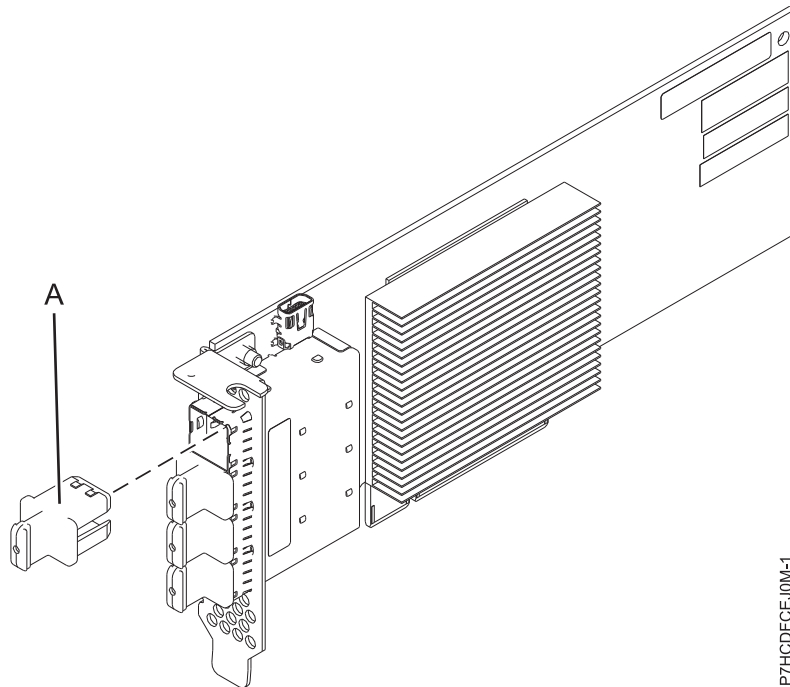

Figure 29. PCIe3 RAID SAS quad-port 6 Gb LP Adapter
The PCIe3 RAID SAS quad-port 6 Gb LP Adapter is a PCI Express (PCIe), generation 3, RAID SAS adapter that has a low-profile and short-form factor. The adapter is used in high-performance and high-density, serial attached SCSI (SAS) applications. It supports the attachment of SAS hard disk drives (HDDs) and solid-state devices (SSDs) by using four mini SAS high-density (HD) x4 connectors that allow the physical links to be used in various narrow and wide-port configurations. The adapter does not have write cache. Figure 29 on page 87 shows the PCIe3 RAID SAS quad-port 6 Gb LP Adapter.
Figure 29 on page 87 shows the adapter. The connector plug (A) is installed in an empty port and prevents damage to that port whenever a cable for the adjacent port connectors is plugged-in or removed.